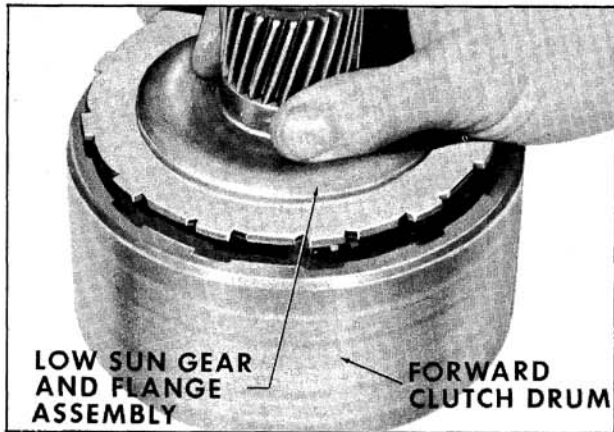

Fig. 6-451 Installing Low Sun Gear and Flange Assembly
11. Install low sun gear and flange assembly. (Fig. 6-451)